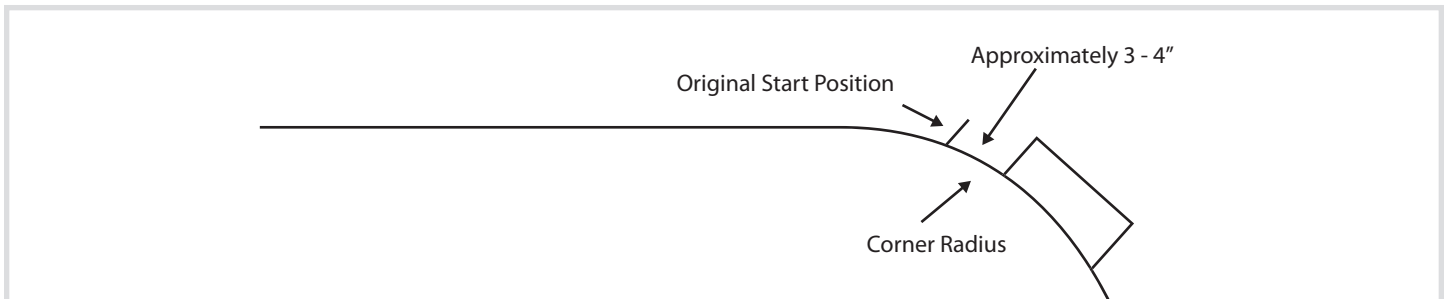

FIGURE 6.1
2. Move light around the corner approximately 3"-4" or until the roll tube extension clears the light. **See figure 6.1.**